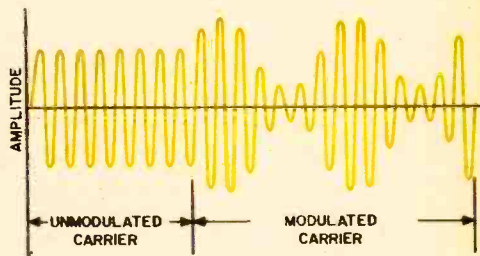
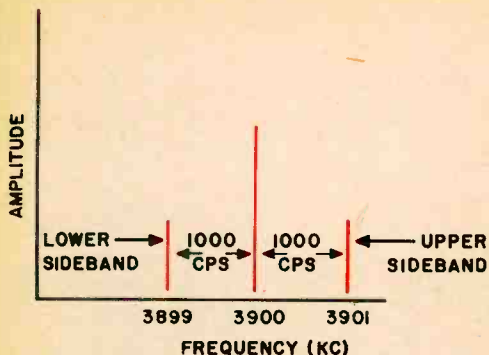

Fig. 1—Conventional AM waveform pattern is composite picture of the carrier and two sidebands.
Fig. 2—Spectrum diagram shows amplitude and frequency relationships of carrier and sidebands when the modulation is a 1,000-cps audio tone.
**Visualizing the Signal.** Most explanations of AM are illustrated with waveform or envelope patterns that you see when monitoring your transmitter's output on an oscilloscope. The pattern in Fig. 1 of an unmodulated and a modulated RF carrier is shown this way. (For further illustrations of this type, see BUILD THE EI CITIZENSCOPE, March '63 EI.) The shortcoming of this pattern is that it doesn't show the relationship to the carrier of what are called side frequencies, or sidebands.
Assume your carrier is 3,900 kc. If you whistled a 1,000-cps tone into your mike, two side frequencies—one at 3,899 and another at 3,901 kc—would appear at your transmitter's output, in addition to the 3,900-kc carrier. This is shown in Fig. 2, a spectrum picture of the complete signal. Here you see amplitude vs. frequency. Figure 1 showed only amplitude vs. time. The amplitude of the side frequencies is determined by how loudly you whistle.